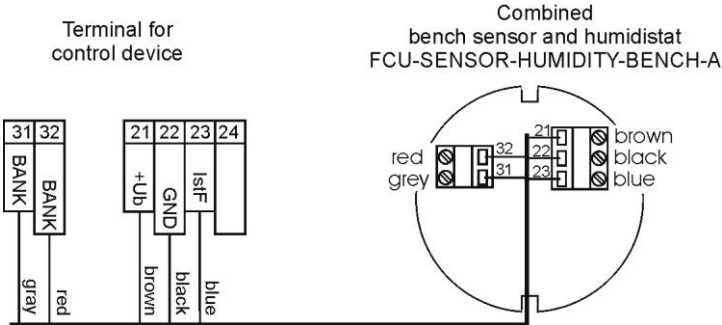

Figure 7: Connection of combined bench sensor for temperature and humidity
4. Depending on the sensor used, connect the signal cable to the board as per the circuit diagram as given in figure 7 or figure 8.